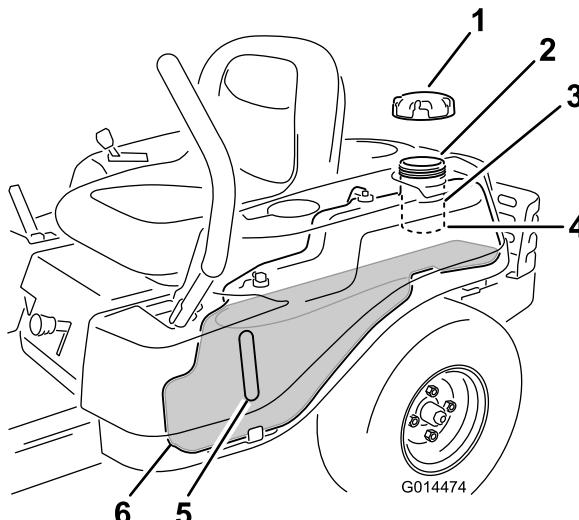

Figure 7
Note: You can use the fuel window to verify the presence of gasoline before filling the tank (Figure 7).
2. Slowly add gasoline until the fuel reaches the base of the filler neck (Figure 7).